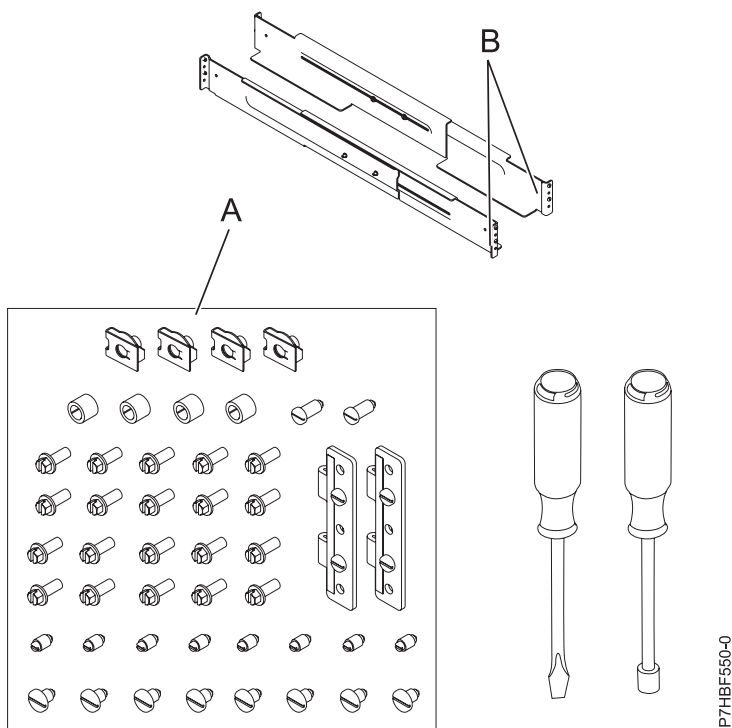

Figure 87. Parts inventory
3. Locate the rack-mounting hardware kit (A) and the system rail assemblies (B) that were included with your expansion unit. See Figure 87 for the relative locations of these items. The system rails are identical.